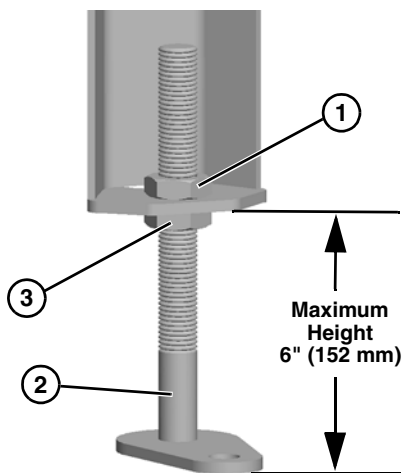

Figure 13
1. Loosen the upper nut (Figure 13, item 1) on the foot stem (Figure 13, item 2).
2. Rotate the lower nut up or down (Figure 13, item 3) to raise or lower the stand to the desired height.
5. Tighten the upper nut (Figure 13, item 1) on the foot stem (Figure 13, item 2) to secure each foot assembly.